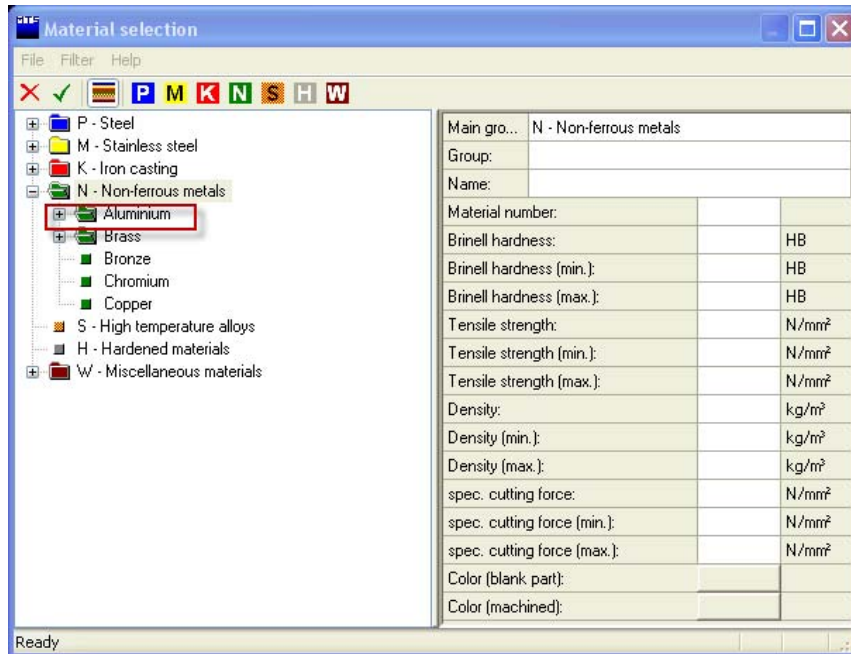

Fig. 2.10: Material selection
- e. Click on “**Aluminum folder**”. Fig. 2.10